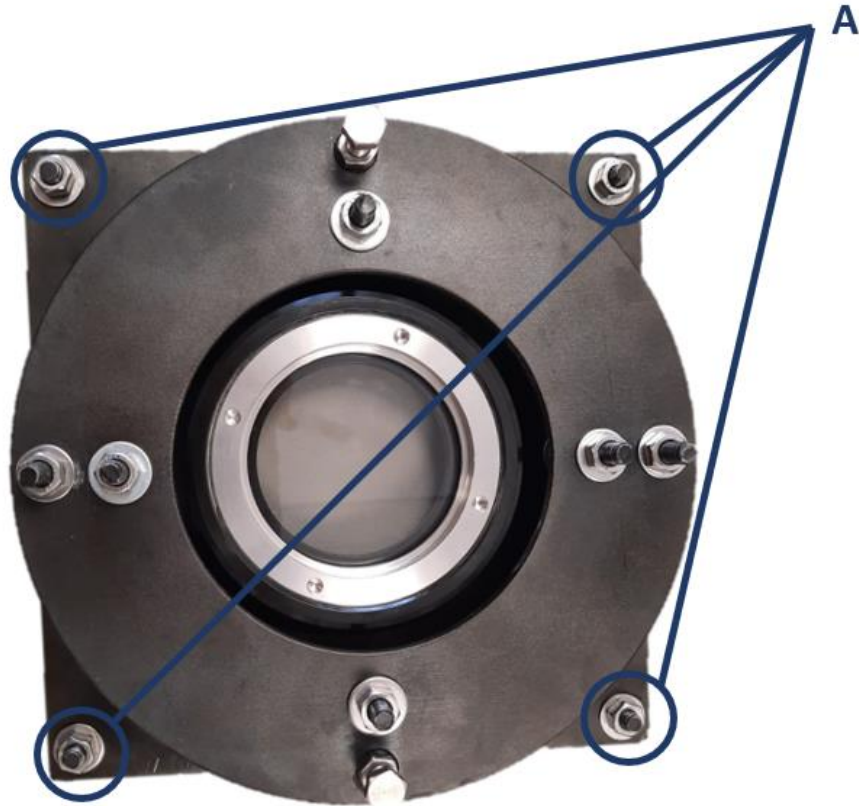

Figure 8: Duct Mount
- 1) Unscrew the detector plate holding screws, Figure 8, Item A.